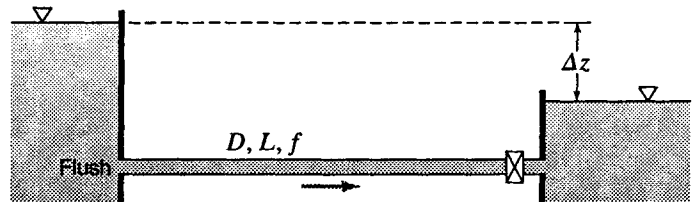

Figure X12.4.3
12.4.3 A 250-mm-diameter pipe (flush entrance,  $f = 0.026$ ) 1000 m long can deliver water from a higher reservoir to a lower one (submerged discharge) (Fig. X12.4.3). The difference between the two water surface elevations is 75 m. After a valve near the downstream end is suddenly opened, what will be the steady flow velocity in this pipe, and how long after the valve is opened will the flow velocity be one-third and two-thirds of the steady velocity?